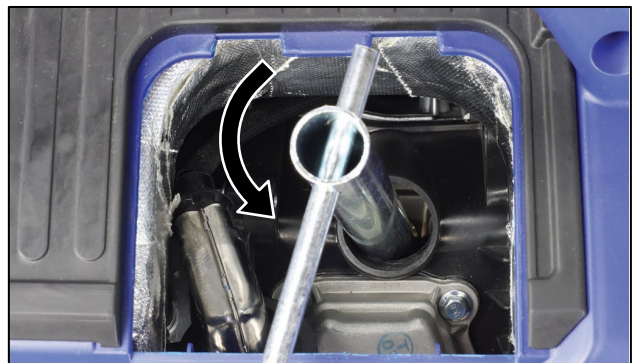

Figure 30 Remove the Spark Plug
5. Use a spark plug socket wrench to remove the spark plug from the cylinder head by unscrewing it anti-clockwise (see Figure 30).